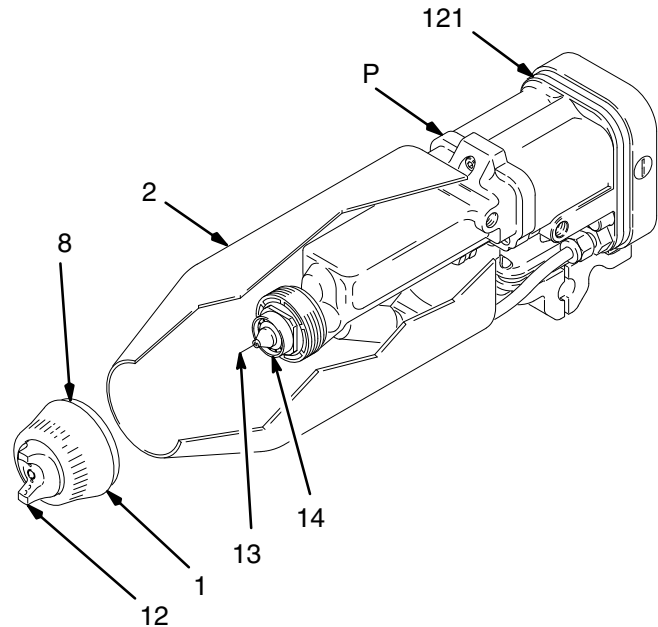

Fig. 14
2. Remove the air cap assembly (1, 12) and gun shroud (2). See Fig. 14.
3. Wipe the fluid nozzle (14), shroud (2), and exterior of the gun (P) clean with a cloth dampened in solvent. Avoid getting any solvent into the air passages. Whenever possible, point the gun down while cleaning it.
4. If it appears that there is paint inside the fluid nozzle (14) air passages, remove the gun from the line for servicing.
5. Clean the air cap (12) with the soft bristle brush and solvent or submerge the air cap in suitable solvent and wipe it clean.
6. Slide the shroud (2) onto the gun (P). Make sure the shroud o-ring (121) is in place.
7. Carefully install the air cap (12). Avoid bending the electrode (13) and be sure to insert the electrode wire through the center air cap hole. Rotate the air cap horns to the desired position.
8. Make sure the o-ring (8) is in place on the retaining ring (1). Tighten the air cap retaining ring (1) until the air cap is held firmly in place; you should not be able to rotate the air cap horns by hand.